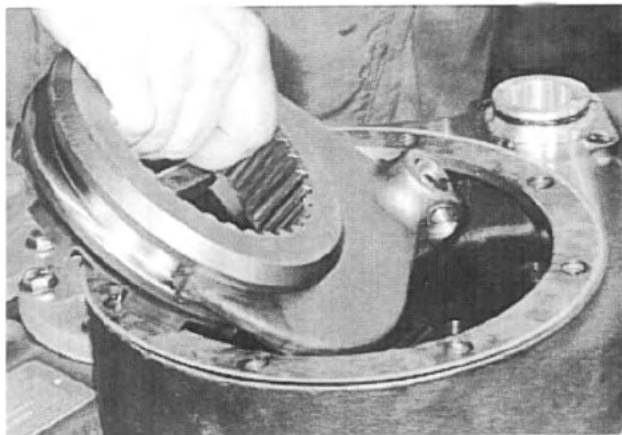

Fig. 77
18. Install the front declutch shift fork and front declutch sliding gear into the declutch housing. See Fig. 77.